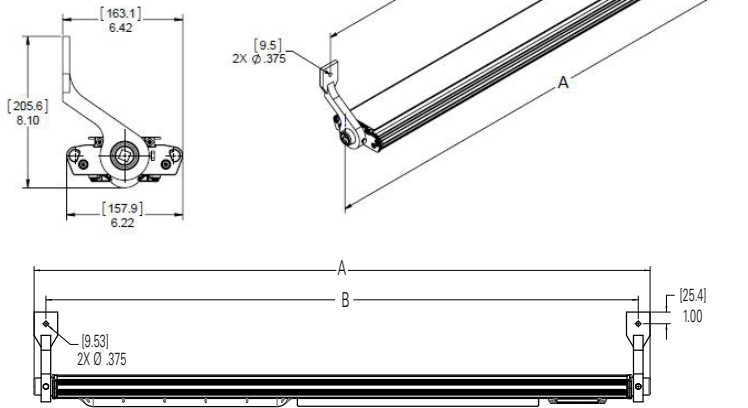

Figure 1. DP1052MTK Side Mount Installation
2. Mark and drill holes for fastening end brackets. Use two (2) 1/4" bolts (not supplied) at center to center measurements (see Figure 1).
3. Fixture is now ready for mounting. It is strongly suggested to use two (2) qualified tradespeople to proceed with the final mounting of the fixture. This is recommended to avoid any personal injury or damage to the fixture.